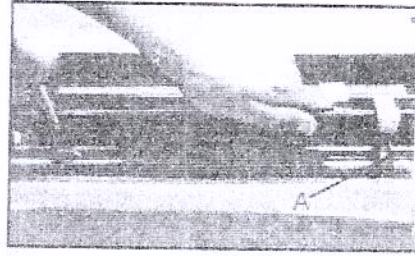

Fig. 17
A. To CHECK AND ADJUST KNIVES use knife gage(A)Fig.17 and 18, and check all three knives for proper setting as shown. When the gage (A) is placed properly on the cutter-head as shown, the knife should just contact the bottom of the center protrusion (B) Fig.17 and 18, of the gage.
E. After all three knives are set with screws just snug, back out and tighten the five screws(D) Fig.17 and 18, against the slot starting with the end screws first then the center screws until the knife is securely held in the cutterhead. Tighten remaining two knives in the same manner.